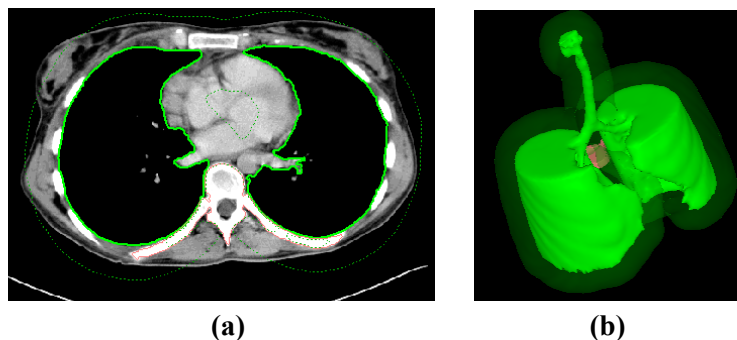

Figure 193 – Created ROI margin in 2D (a), in 3D (b)
6. Press the **Calculate** button. The created margin will be drawn by dash line (see Figure 193).